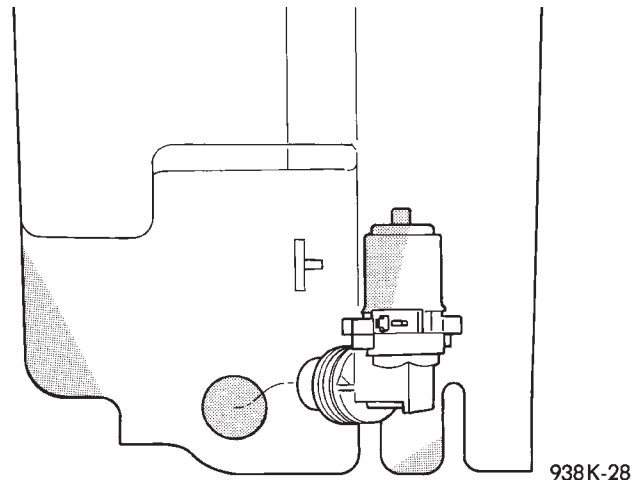

Fig. 16 Washer Pump
- (1) Remove liquid from reservoir.
- (2) Disconnect battery terminals. Remove battery and tray.
- (3) Disconnect electrical lead and rubber hose from bottom of pump.
- (4) Remove two reservoir retaining nuts and screw, then remove reservoir.
- (5) Gently pry pump away from reservoir and out of grommet. Care must be taken not to puncture reservoir (Fig. 16).